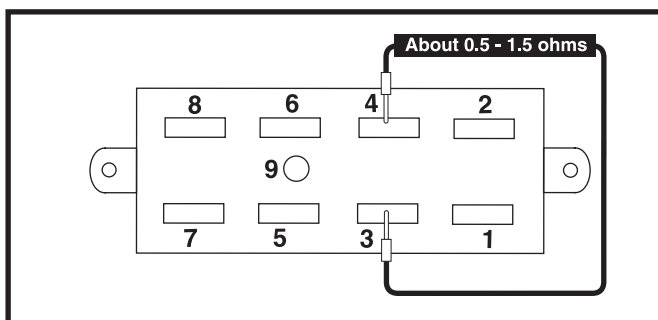

Figure 25. Connector 2a
2. Measure resistance across pin 3 and pin 4 on connector 2a. **See figure 25.**
- If your multimeter indicates 0.5 - 1.5 ohms, then replace the VSI controller (1) and retest the system.